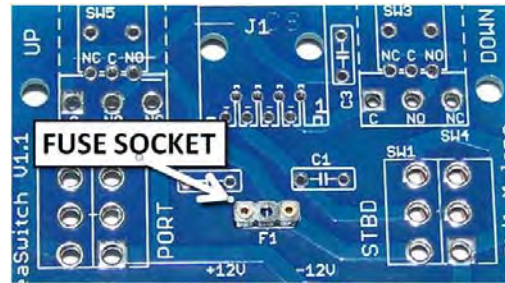

Figure 3.3-2: Fuse Socket Installed at the Location Labeled "F1"
8. Locate the **fuse socket**. Place its two pins through the holes at the location on the board labeled "F1," as shown in Figure 3.3-2 (remember, **all** components go on the side of the PCB that has the white lettering). Use a small piece of electrical tape to hold the socket in place. Flip the board over and place it on a tabletop. Press down on the PCB to hold the socket **flat** against the board, and solder the two connections. Melt only about 1/4" of solder into each connection, let them cool for a few seconds before moving anything, and make sure that there are no solder bridges between the connections. (Remove excess solder if needed by touching the solder bridge briefly with a clean, hot, soldering iron tip.)